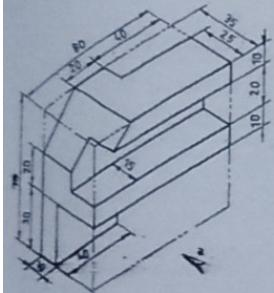

Figure 1
- Using first angle orthographic projection, draw the front elevation, plan, left hand side view, and right hand side view of the object in Figure 1, viewed from direction A.